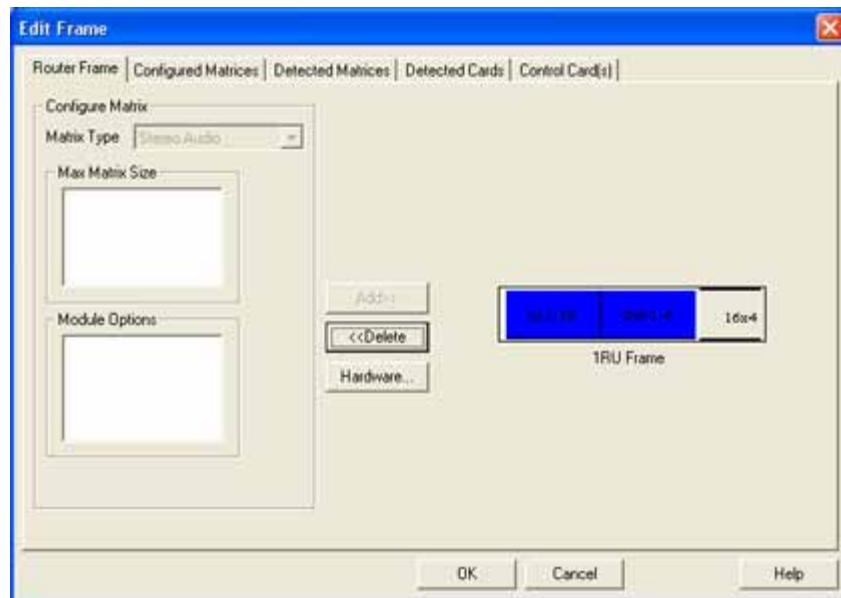

Figure 11-3 Router Frame Tab
- 6 Select the **Router Frame** tab. Panacea module information such as matrix size, type, and module options will be displayed (see **Figure 11-3**). These will vary, depending on your Panacea's matrix type.